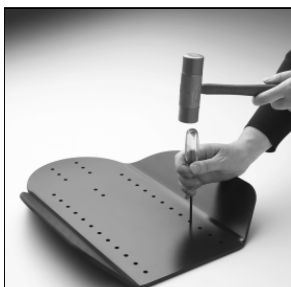
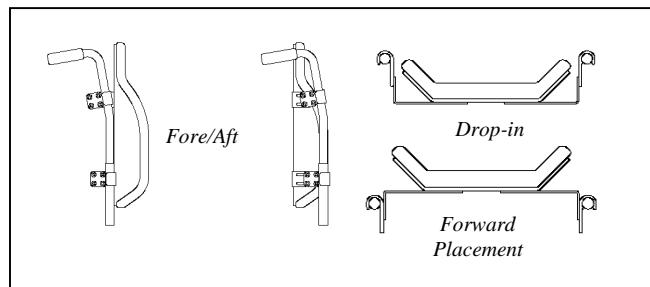
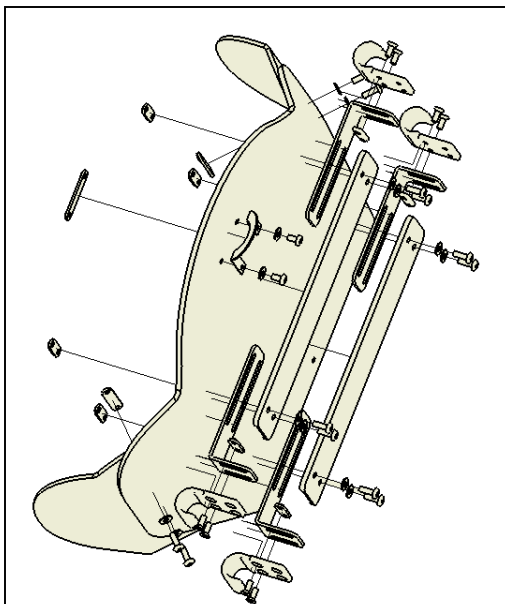

Figure 1
Figure 2
Figure 6
As seen in Figure 1, punch out appropriate partially drilled holes on the left and right hand side of the Shell (A). As displayed in Figures 2 & 3, determine correct orientation of L-brackets (D) for the desired back position/location. Attach 2 L-Brackets (D) to Shell (A) and Reinforcement Bar** (J) using 4 washers, 4 Bracket to Shell Screws (F) and 2 Weld Nuts. Repeat for 2 remaining L-Brackets. This assembly is illustrated in Figure 6.
Fore/Aft: The L-Brackets (D) can be mounted in 2 directions to allow for Drop-In or Forward placement of the Shell to the wheelchair push handles as seen in Figures 2 & 3.